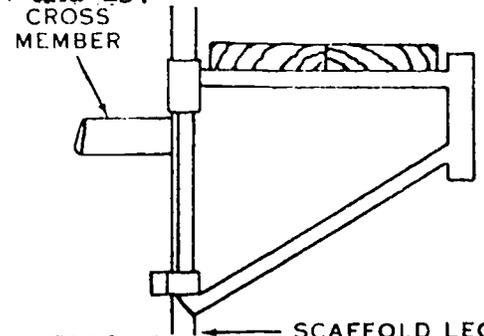

FIGURE 13. Slide bracket
g. Side brackets as shown in Figure 13 are attached to the inside of the scaffold to support workmen. The scaffold can then be used to hold materials